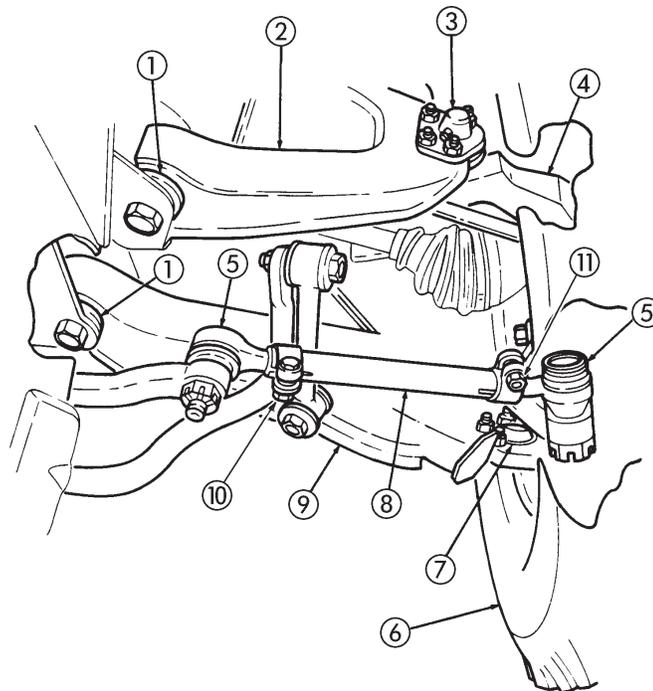

Figure 7-6. Toe-in/Front Wheel Check
**e. Toe-in Adjustment (Figure 7-6)**